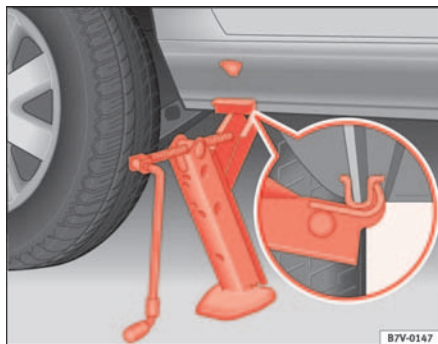

Fig. 161 Jack at rear on right
4. Adjust the jack and continue to crank the claw up until it is in position around the vertical rib ⇒ fig. 161 (arrow) underneath the vehicle ⇒ ⚠
- The jack claw must grasp the vertical rib under the sill properly so that the jack does not slip off when you are raising the vehicle ⇒ fig. 161.